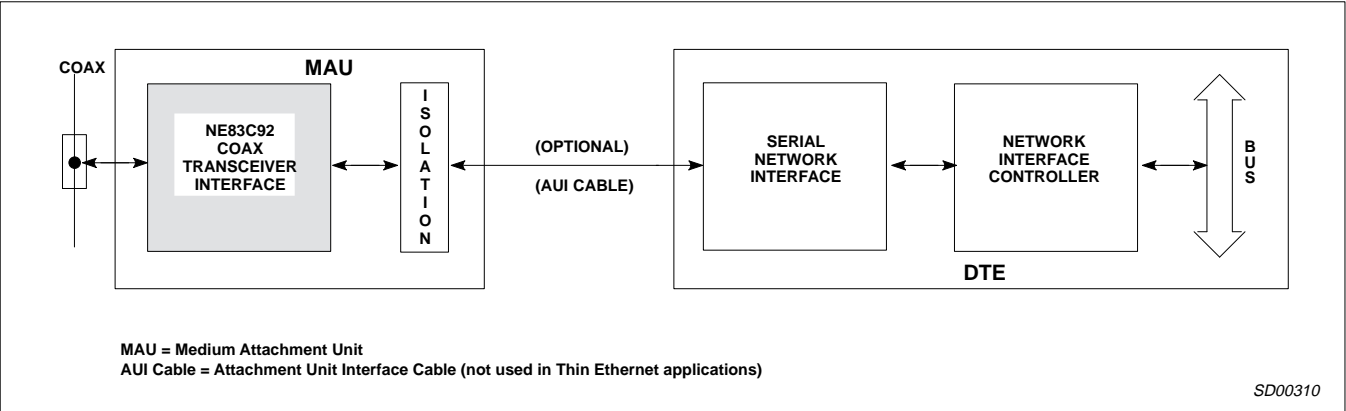

Figure 2. Interface Diagram for Ethernet/Thin Ethernet Local Area Network
2. Measured on secondary side of isolation transformer (see Figure 2). The transformer has a 1:1 turn ratio with an inductance between 30 and $100\mu\text{H}$ at 5MHz.